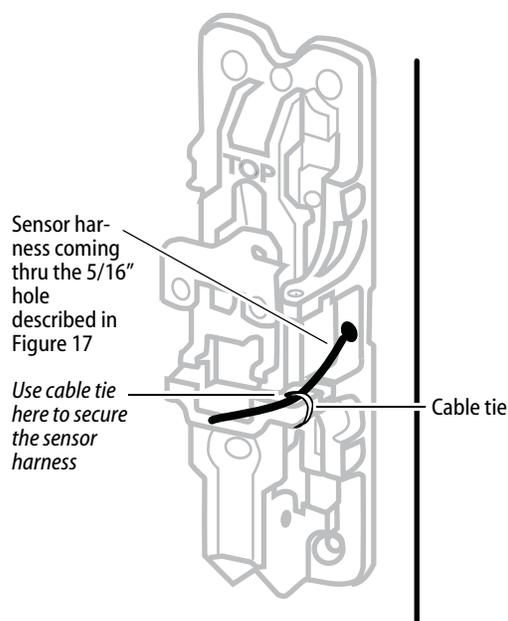

Figure 26 Using cable ties to hold wires for Precision 2200, 2700, and 2800 exit devices
**Note:** For Precision 2200, 2700, and 2800 exit devices, use cable ties in addition to the tape, to hold wires as shown in Figure 26.